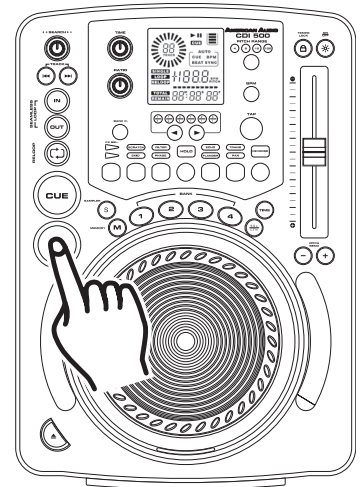
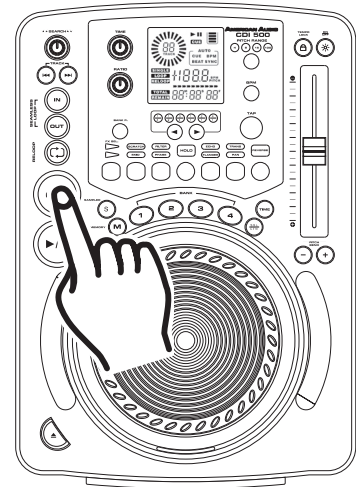
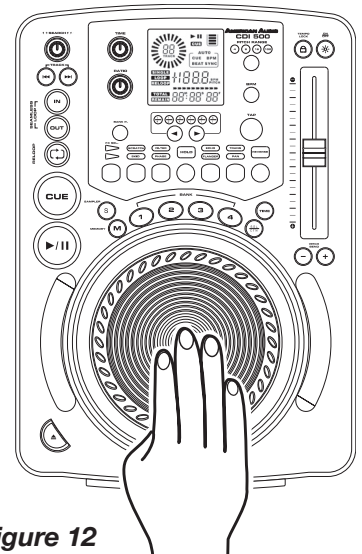

Figure 10
Figure 11
Figure 12
3. STARTING PLAYBACK - *Figure 11*
5. STOPPING PLAYBACK - *Figures 10 & 11*
- 1) Press the *PLAY/PAUSE BUTTON (17)* during playback. This will pause playback at the exact same point the *PLAY/PAUSE BUTTON (17)* was pressed.
- 2) Press the *CUE BUTTON (20)* during playback. This will pause playback and return the track to the last set cue point.
6. PAUSING - *Figure 10*
This feature allows you to scroll through a track frame by frame, allowing you to find and set a starting cue, sample, or loop point. To use the scroll function you must first be in Pause Mode (see section 6) or Cue Mode (see section 5). Once you are in Pause or Cue mode, turn the *JOG WHEEL (13)* to scroll through the track (*Figure 12*). Turning the wheel in a clockwise direction will advance the frame search and turning the wheel in a counter-clockwise direction rewinds the frame search. When you use the *JOG WHEEL (13)* the monitor (headphone level) function allows you to here what you are scrolling through. Once you reach your desired starting point you can set a cue (starting) point by pressing the *PLAY/PAUSE BUTTON (17)* as in *Figure 10*. Pressing the *CUE BUTTON (20)* as in *Figure 11* will now return you to the point you just set.